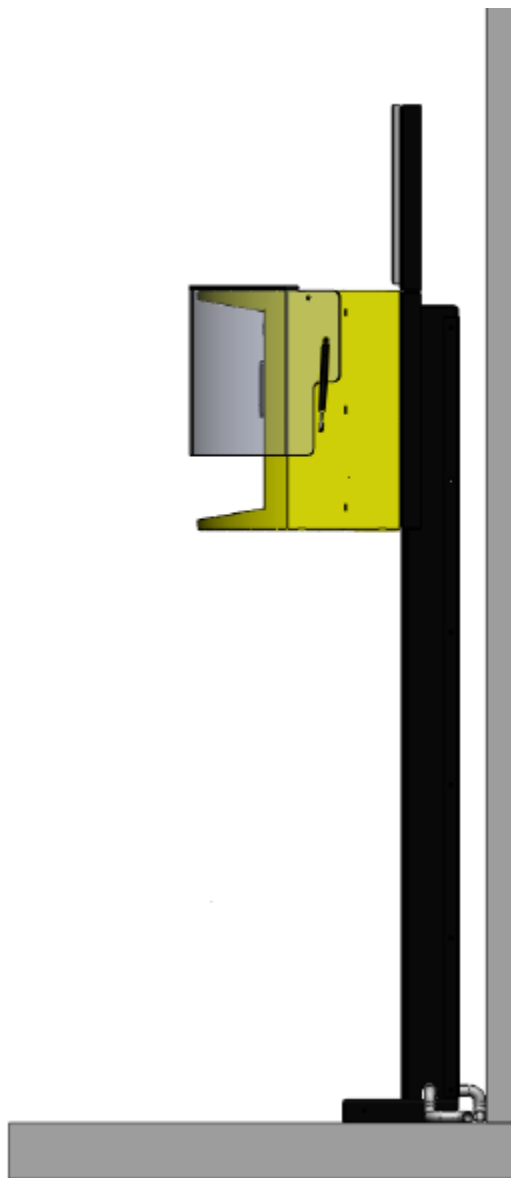

Figure 7: Pedestal Mount (Side View)
- Figure 7: Pedestal Mount (Side View)16